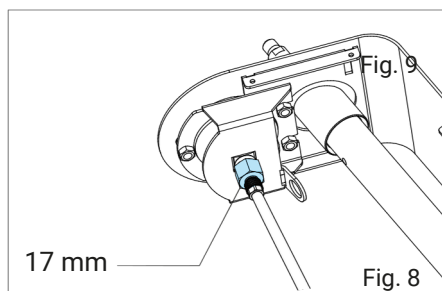

Fig. 8
- 3 There is a shallow slot at the bottom of the air pump casing (9). Carefully insert a slotted screwdriver into this slot (Fig. 8). Release the plate from the lock by pushing it slightly upwards. You can then push the plate further up by hand and remove it.
- 5 Then use a 17 mm open-end wrench to loosen the screw-on fitting directly under the manometer at the tube attachment (Fig. 8).
- 10** Now connect the pump tube - if loosened - to the manometer and hand-tighten the screw-on fitting (with the 17 mm open-end wrench (Fig. 8)).